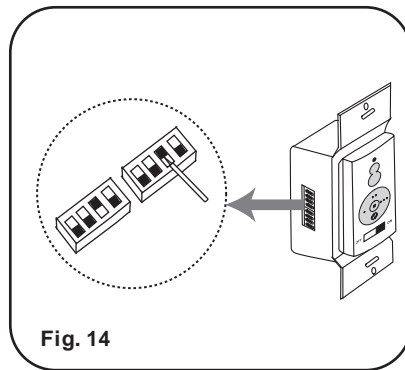

Fig. 14
**NOTE:** The Aire Control® System is equipped with a learning frequency function which has 256 code combinations to prevent potential interference from other remote units. The frequency on your Receiver and Transmitter units have been preset at the factory. (Fig. 14) No frequency change is necessary, should you desire to install another fan within the same home or area with a separate frequency code please see the "frequency interference" troubleshooting section of this instruction manual to learn how to change the frequency.